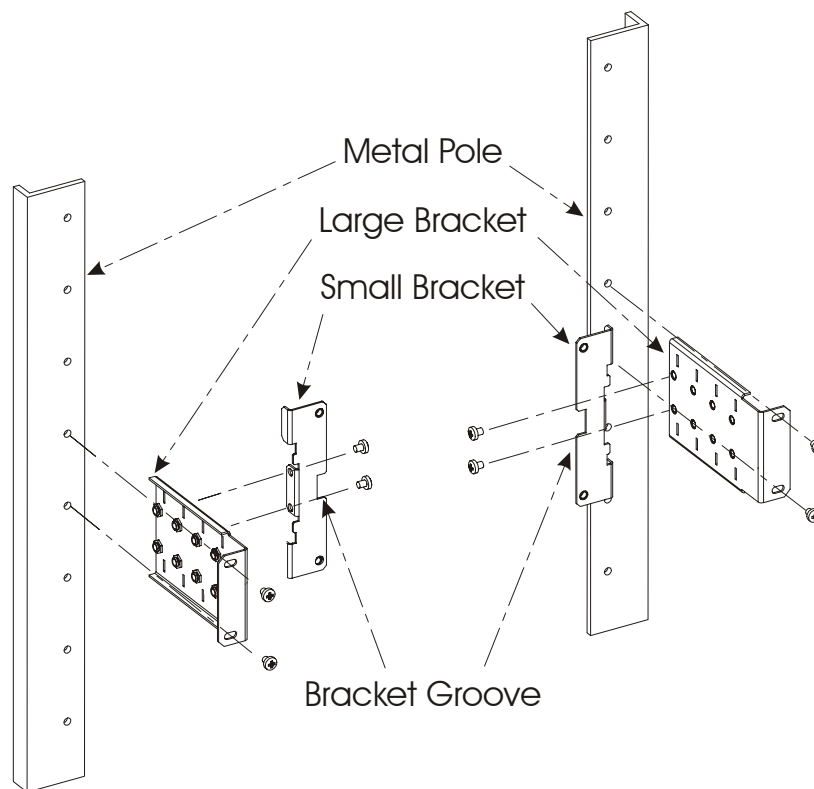

Figure 2-4 Installation of Brackets for 19" Rack Units
- 1) Press the small metal bracket into the slot of the larger bracket. See Figure 2-4.
- 2) Secure the two brackets together with two M5 screws (supplied), according to the desired depth of the unit on the rack. See Figure 2-4.
- 4) Using the supplied two screws, attach the combined brackets to the metal pole of a 19" rack unit. See Figure 2-4. Repeat on other side.